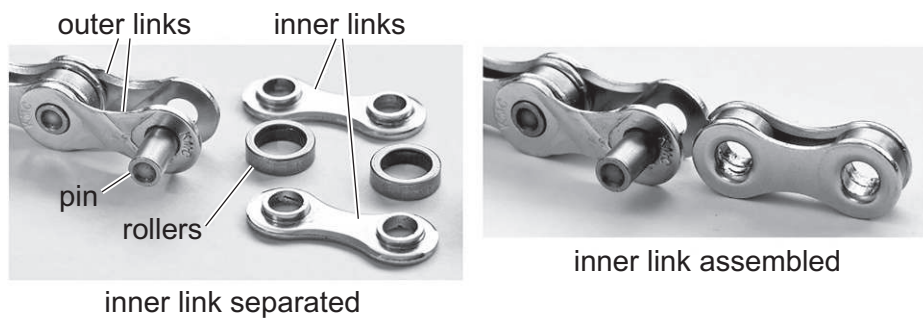

Fig. 11.3
- (ii) Fig. 11.3 shows a close-up view of a chain link.